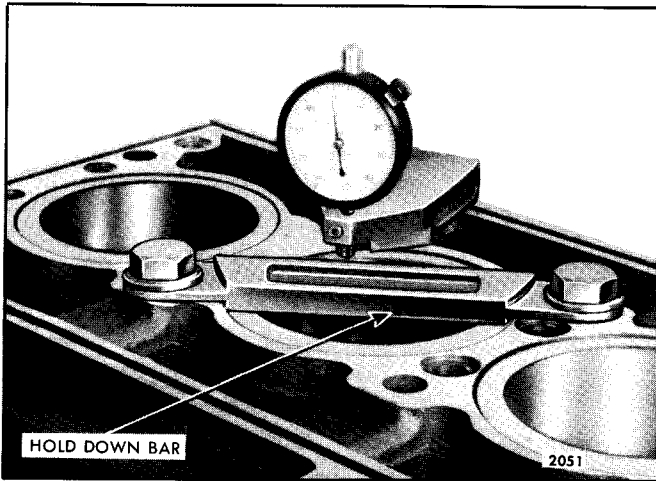

Fig. 7 - Checking Distance of Liner Flange Below Top Face of Block using J 22273-01 and Hold-Down Tool J 21793-B
4. Install a cylinder liner hold-down clamp as illustrated in Fig. 7.
5. Measure the distance from the top of the liner flange to the top of the block with a dial indicator (Fig. 7). The liner flange must be .0465" to .0500" below the top of the block. However, even though all of the liners are within these specifications, there must not be over .002" difference between any two adjacent liners when measured along the cylinder longitudinal center